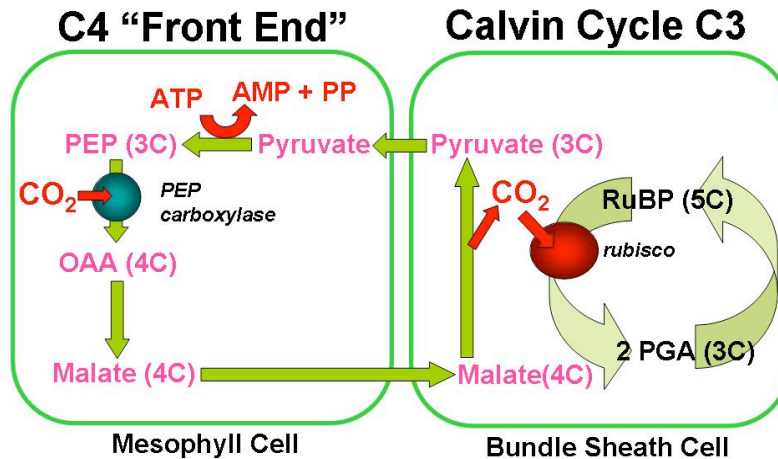

Figure 1. The Generalized C₄ cycle
C₄ photosynthesis is not something that occurs instead of C₃ photosynthesis i.e. the Calvin cycle, rather C₄ is fancy “front end” that has evolved as a carbon pump to provide CO₂ to the Calvin cycle. In fact because of this division of labor C₄ plants have chloroplasts in 2 different cell types that are close to each other (fig 1). The initial CO₂ capture occurs in mesophyll cells and the resulting four carbon sugar diffuses to the bundle sheath cell where the CO₂ is released and is used by rubisco to feed into the Calvin cycle. As you know in C₃ photosynthesis CO₂ is initially captured by rubisco. In C₄ photosynthesis CO₂ in the form of HCO₃⁻ is initially captured by the enzyme phosphoenolpyruvate carboxylase (PEP carboxylase) which has a much higher affinity than rubisco. PEP carboxylase catalyzes the reaction of HCO₃⁻ and phosphoenol pyruvate (3C) to form oxaloacetate (4C) (OAA). OAA is quickly converted to malate and the malate is transported from the mesophyll cell to the bundle sheath cell where the enzyme NADP malic enzyme converts the malate to pyruvate releasing a CO₂ which is then recaptured by rubisco. The pyruvate moves back into the mesophyll cell where it is converted to phosphoenol pyruvate (PEP) by the enzyme pyruvate-orthophosphate dikinase. This highly energetic step uses one phosphate from ATP to phosphorylate the pyruvate and transfers another one to a free phosphate forming pyrophosphate (PP).